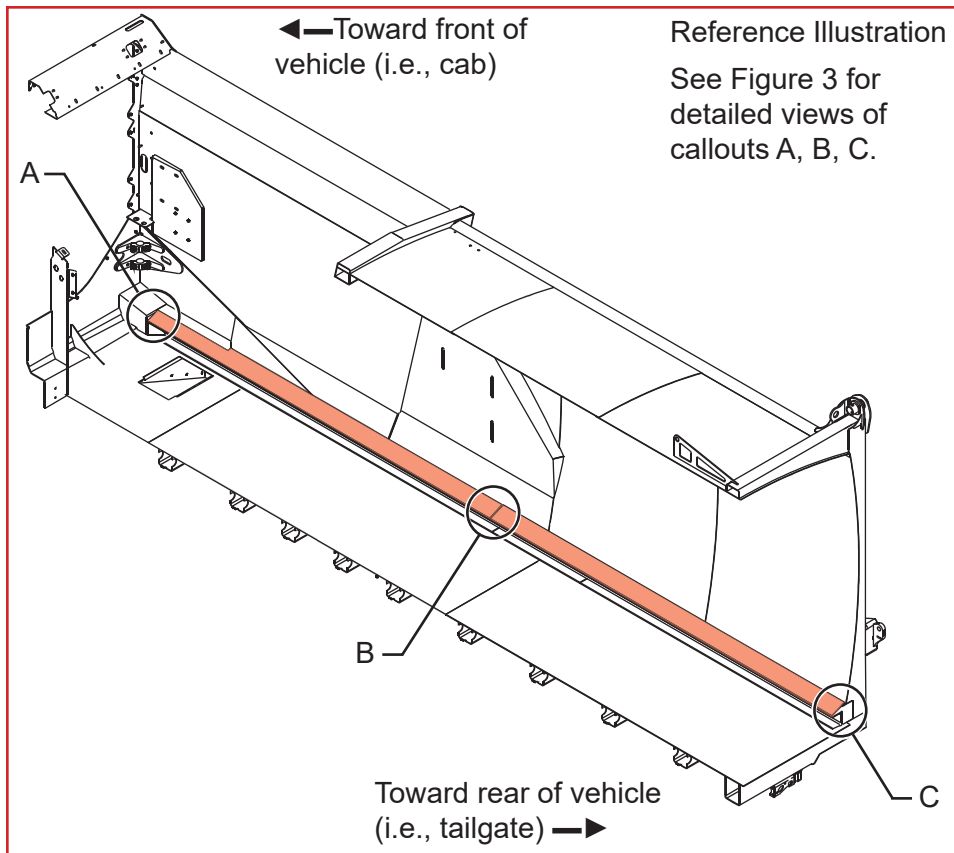
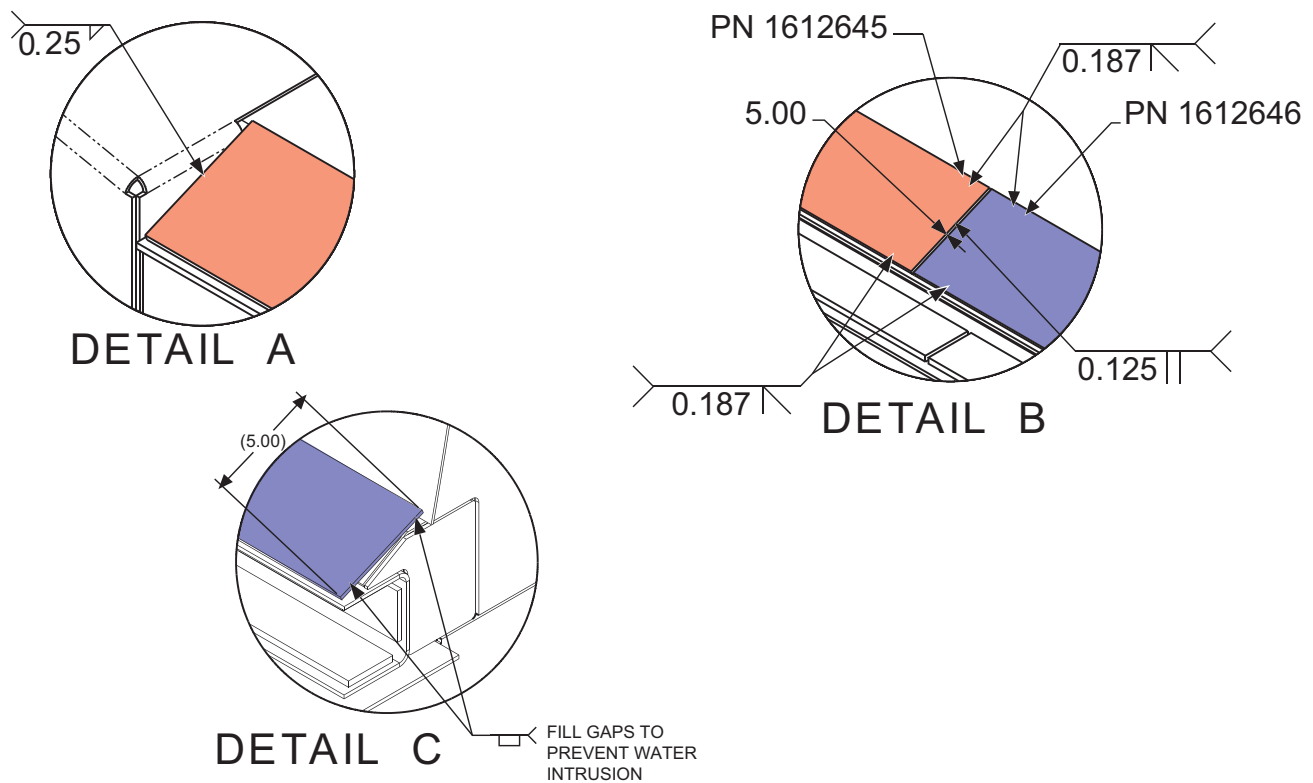

Figure 2
Figure 3
2. Weld the track top closeouts according to the welding details in Figure 2 reference image and Figure 3 detailed weld callouts.